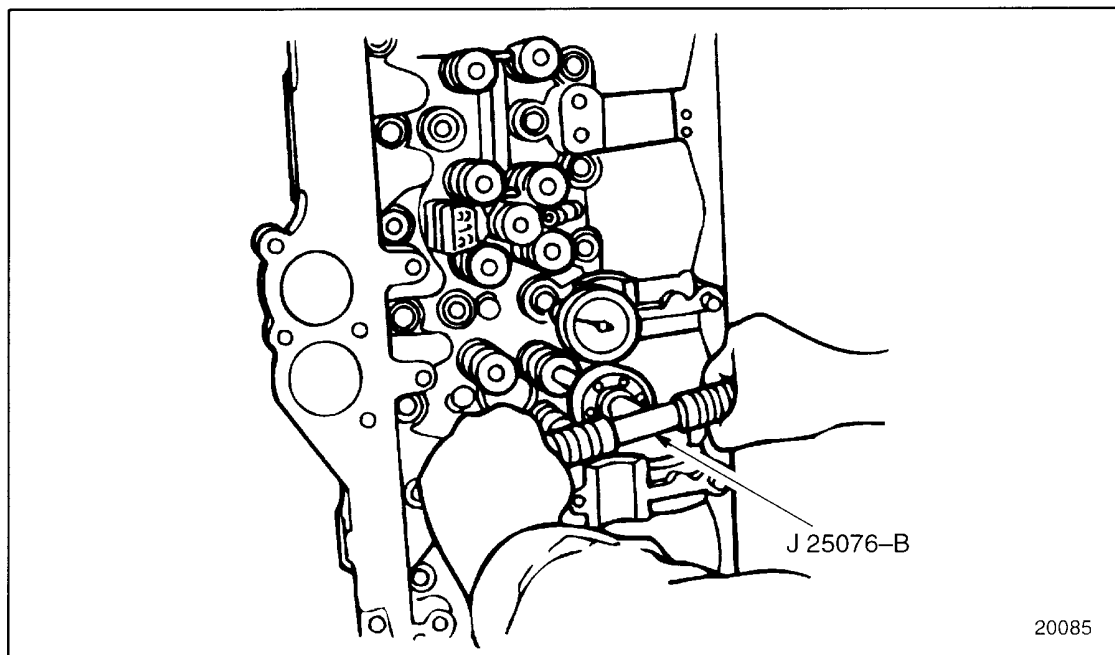

Figure 1-93 **Checking Valve Spring Load**
10. After all of the valves are installed, check the spring opening pressure on each valve using spring load gage, J 25076-B (or equivalent). See Figure 1-93.